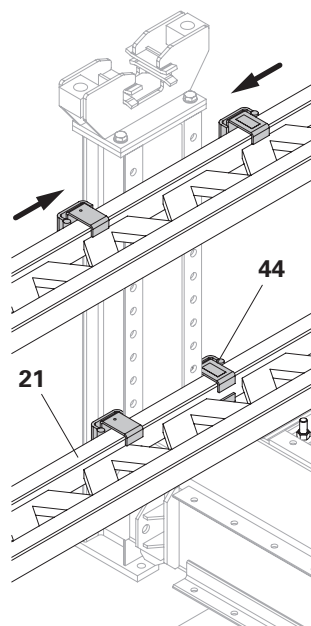

Fig. B2.03
3. Slide the Clamps GT 24 ACS (**44**) over the cantilever beams and screw them tight. (Fig. B2.03)